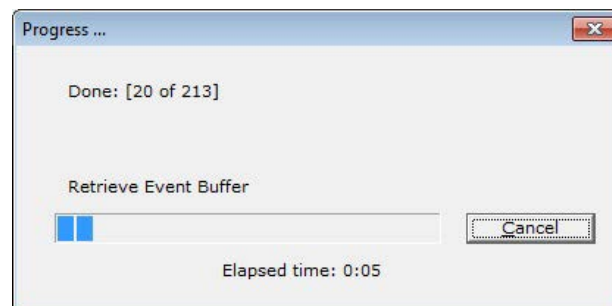
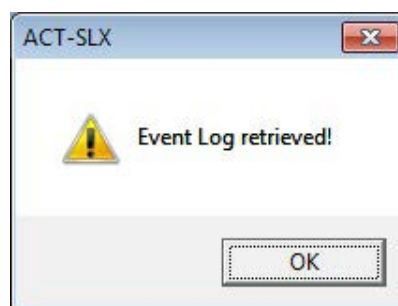

Figure 4-28. Receive Event Log Progression Screen
Figure 4-29. Event Log Received Confirmation Screen
6. Select <OK> to download the event log from that node. In response, the progression of the download (Figure 4-28) is displayed. When it is complete, the Event Log Retrieved Confirmation Screen displays (Figure 4-29).